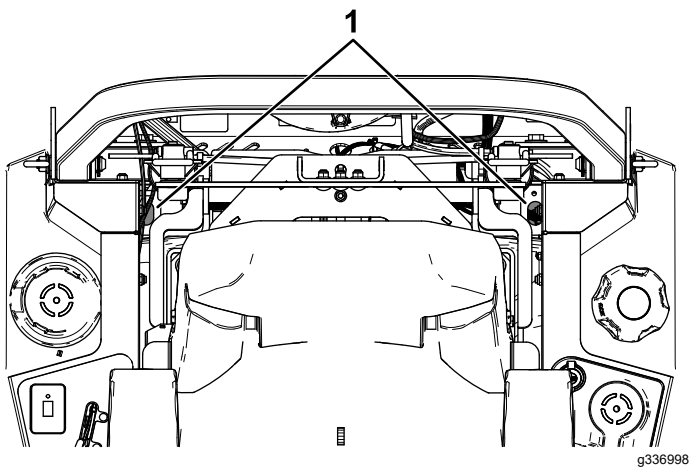

Figure 90
- **For ZT 4400 Hydros**, use an extension and 7/16-inch socket, access the vent plug from the top of the machine through the holes near the roll-bar mounts (Figure 90).